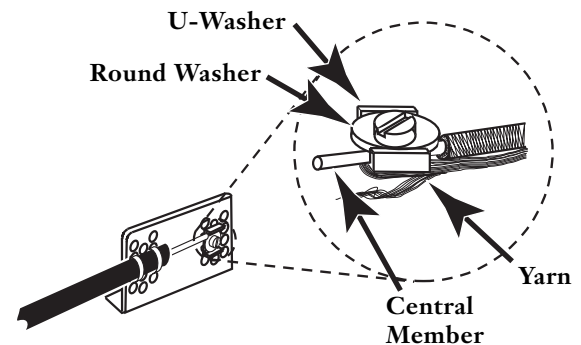

Figure 5
5.6 Secure the cable to the strain-relief bracket using cable ties (Figure 5).